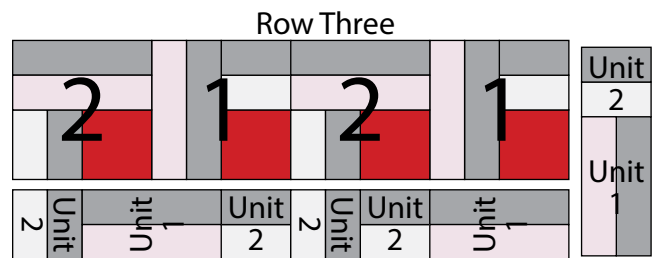

Fig. 7
7. Sew together (2) Block Two squares and (2) Block One squares, alternating them from left to right, to make the top row (Fig. 7).
8. Sew together (1) Unit 2 square, (1) Unit 1 strip, (3) Unit 2 squares and (1) Unit 1 strip, in that order from left to right, to make the bottom row (Fig. 7).
9. Sew (1) Unit 2 square to the top of (1) Unit 1 strip (Fig. 7).
10. Sew together the (2) rows from Steps 7-8 lengthwise. Sew the strip from Step 9 to the right side of the newly sewn strip to make Row Three (Fig. 7).